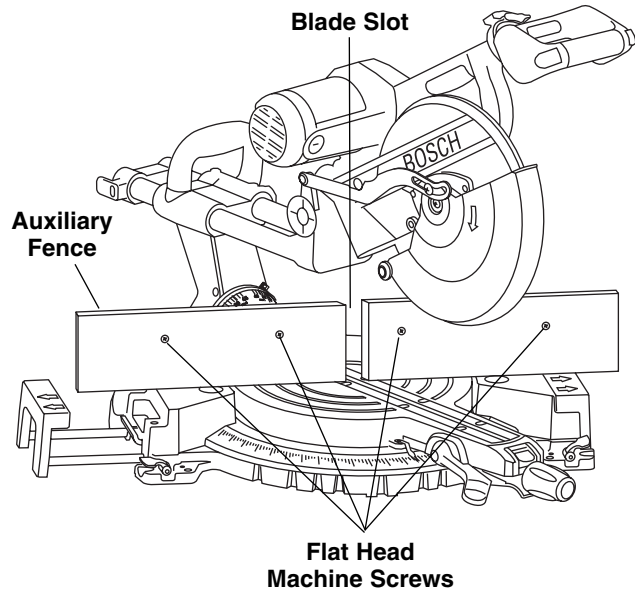

Figure 22. Auxiliary Fence
1. Place a piece of wood against the miter saw fence (Figure 22). (Wood can have a maximum height of 4-1/2". Check that auxiliary fence assembly does not interfere with head assembly.